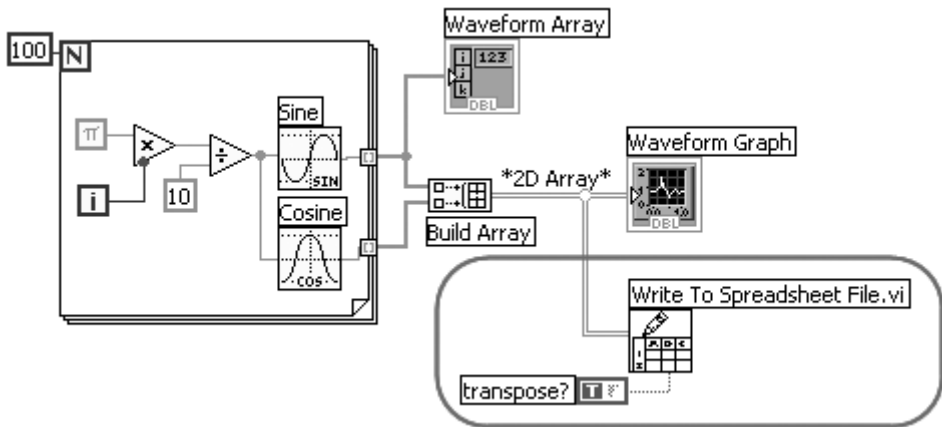

Figure 9.36
2. Open the diagram of **Graph Sine Array.vi** and modify the VI by adding the diagram code shown inside the oval, as shown in Figure 9.36.